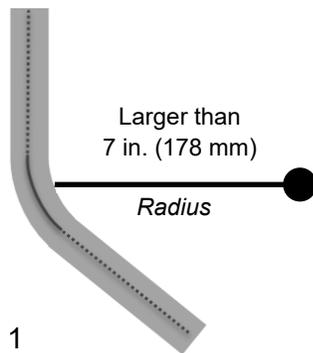
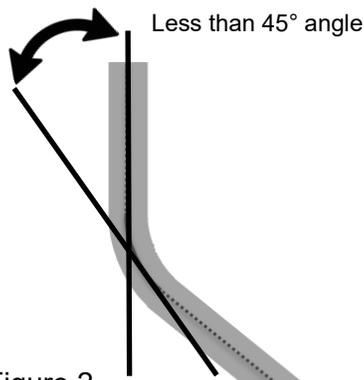

Figure 1
Figure 2
Bending Conditions	<ul style="list-style-type: none"> <li>• Bend radius: Must be larger than 7 in. (178 mm) (Figure 1)</li> <li>• Angle: Do not install in angle over 45° to vertical (Figure 2)</li> </ul> <div style="display: flex; justify-content: space-around; align-items: center;"> <div style="text-align: center;">  <p>Figure 1</p> </div> <div style="text-align: center;">  <p>Figure 2</p> </div> </div>
- The flexible liner must not be installed with a radius smaller than 7 in. (178 mm) (Figure 1). Note: The vent system should be inspected annually for signs of damage or condensate leaks. If the vent system appears damaged, the appliance must be turned off and the vent system replaced.
- Do not install the flex liner at an angle greater than 45 degrees. Do not install the flex liner horizontally, as this will cause condensate to not drain properly. Use rigid pipe in conjunction with flex liner for horizontal runs (Figure 2).